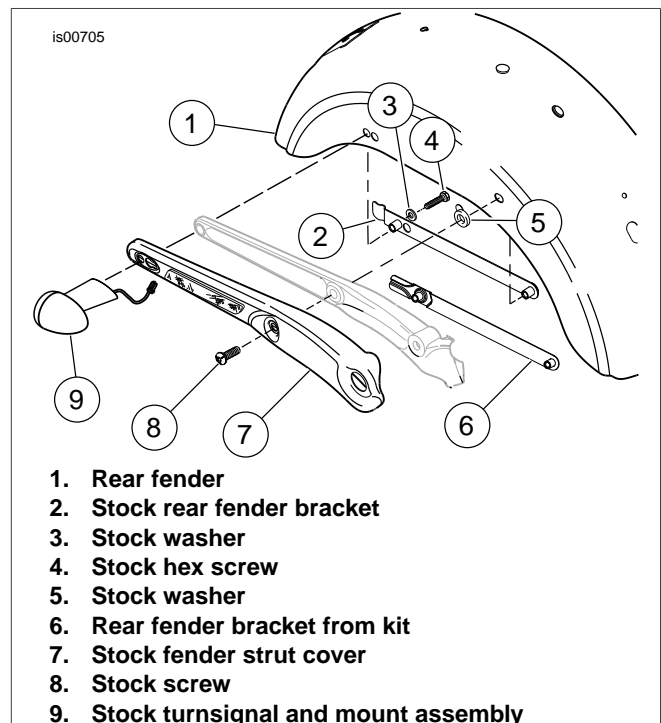

Figure 2. Replace rear fender bracket
See Figure 2 for Steps 7-10.
13. See Figure 2. Tighten fender strut cover screw (8) to 18 ft-lbs (24 Nm).